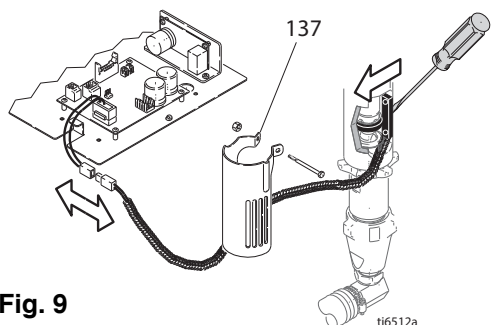

Fig. 9
- 1 Fig. 9. Disconnect gallon counter cable at back of pressure control and at engine.
- 2 Remove guard (137) and reed switch from hydraulic motor.
- 3 Install new reed switch and guard (137) on hydraulic motor.
- 4 Fig. 9. Connect gallon counter cable at back of pressure control and at engine.